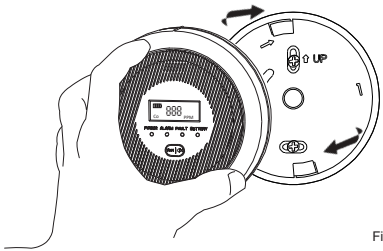

Figure 10
- 7)Align the detector with the mounting bracket through the 2 obtruding noses,turn it clockwise to fix(refer to Figure 10).